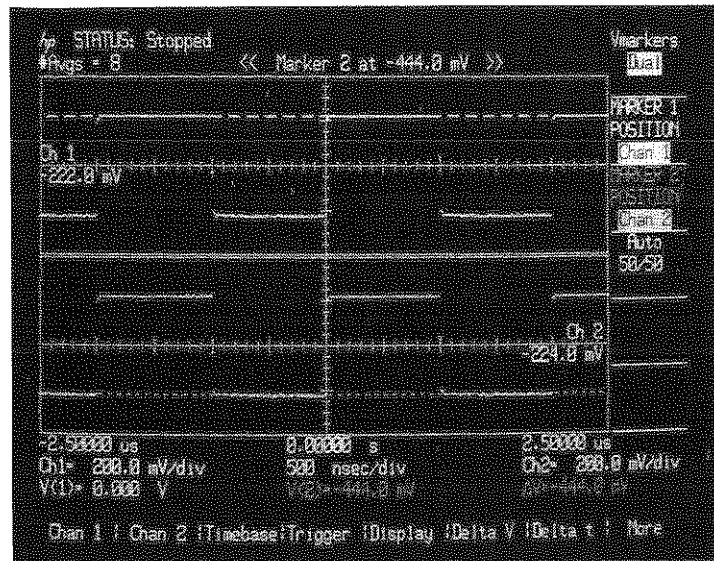

Figure 7-6. Delta V markers on Split Screen.
*$\Delta V$  in the factors area lists the voltage difference between the two markers (see figure 7-6).*